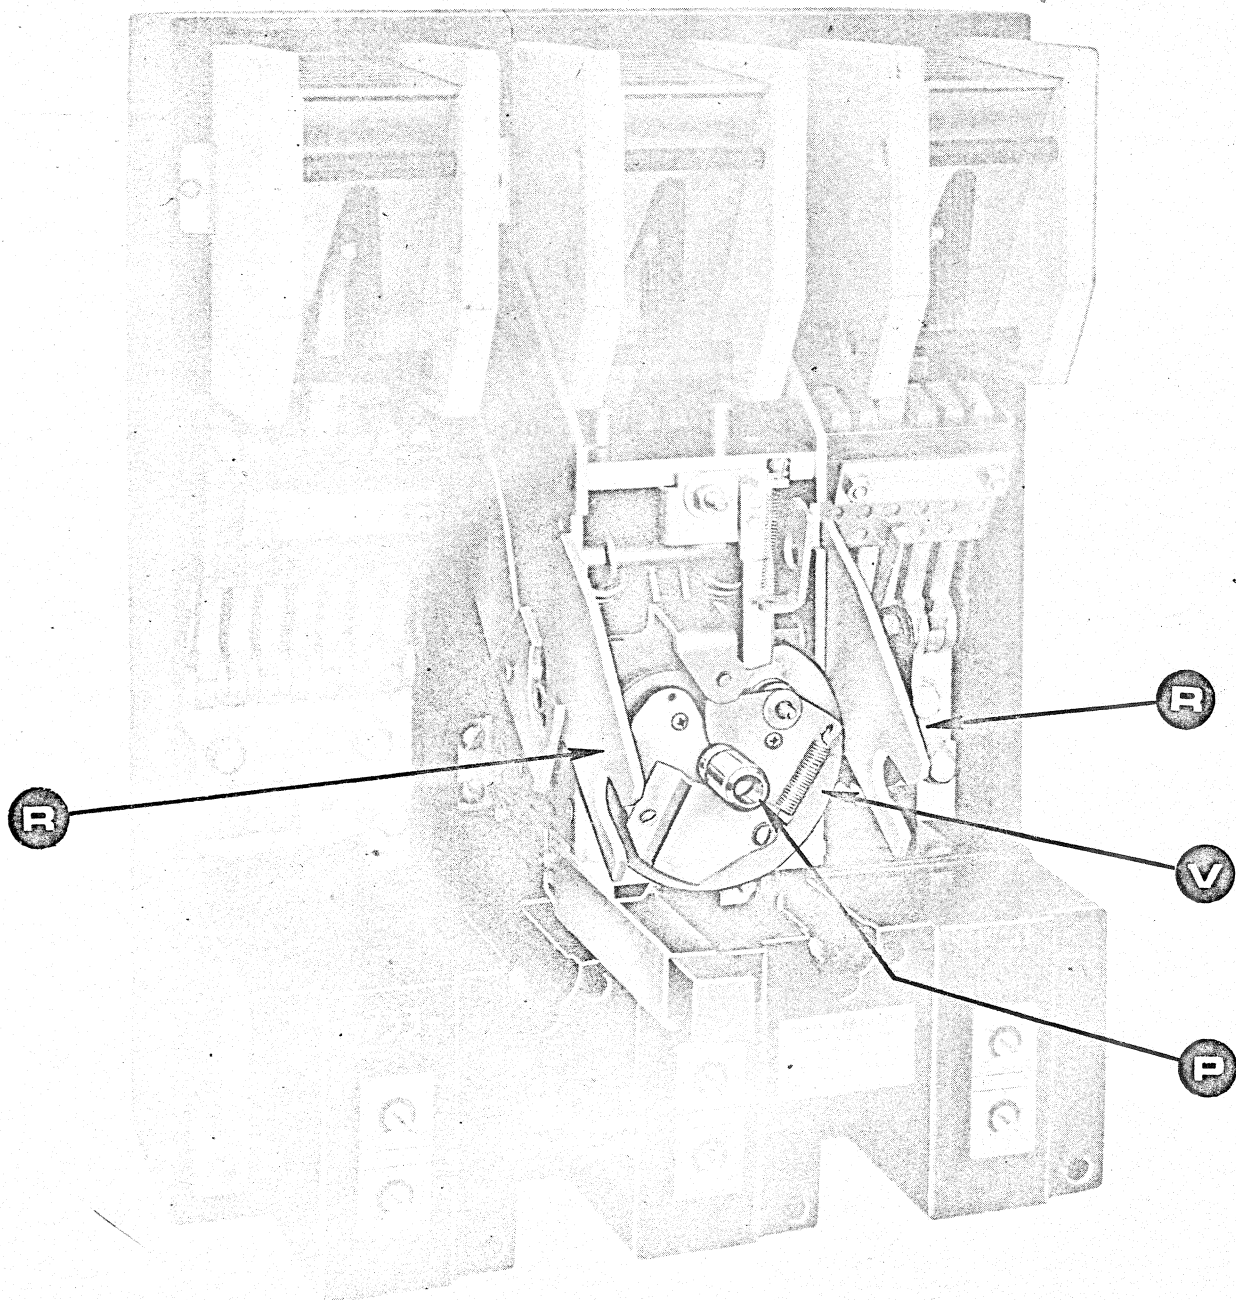

Figure 3
1. Slide inner cover and power unit assembly on to breaker base and mechanism shown in Figure 3, taking care to assure correct lineup of handle shaft Figure 3 (P) and operating levers Figure 3 (R). Operating lever slots must engage in grooves in rollers. Figure 2 (S)
Wiring diagram and identification of electrical components can be used as an aid to solving operational problems, should they arise. Unit is so interlocked that if manual charging cam, Fig. 3, (V) is out of position, electrical charging or closing is prevented. If screw driven carriage is out of extreme downward position, it will be impossible to manually or electrically close breaker. Slots are provided in outer ends of motor